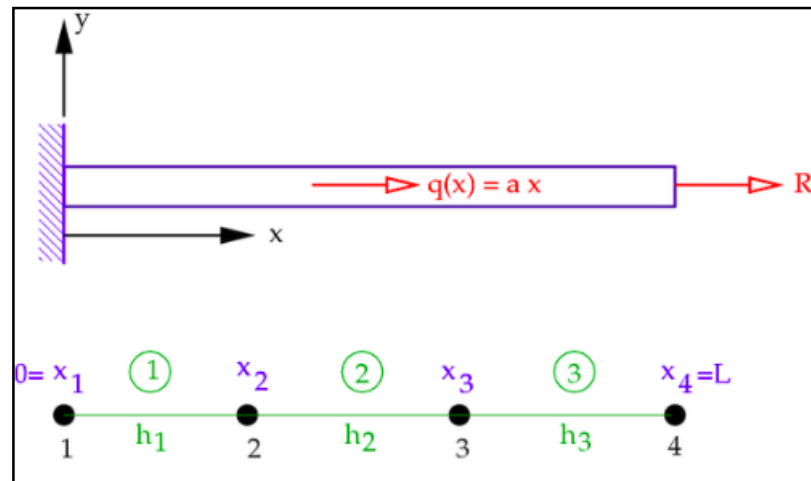

Figure 2. FE model for task (a)
Model (a) is a 1D bar loaded at its tip (Figure 2). AI tries to find optimal cross-sectional area and Young's modulus, i.e. optimize for geometry and material in the simplest one-dimensional case, in order to have acceptable displacement in tip node (4).